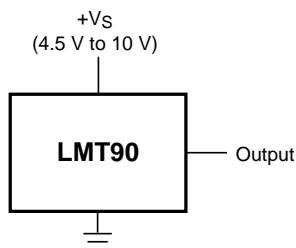

Figure 14. Full-Range Centigrade Temperature Sensor (–40°C to 125°C)
Unless otherwise noted, these specifications apply for V_S = 5 V_{DC} and I_{LOAD} = 0.5 μA, in the circuit of Figure 14. All limits T_A = T_J = 25°C, unless otherwise noted.
- (1) Limits are specific to TI's AOQL (Average Outgoing Quality Level).
- (2) Accuracy is defined as the error between the output voltage and 10 mV/°C times the device's case temperature plus 500 mV, at specified conditions of voltage, current, and temperature (expressed in °C).
- (3) Non-linearity is defined as the deviation of the output-voltage-versus-temperature curve from the best-fit straight line, over the device's rated temperature range.
- (4) Regulation is measured at constant junction temperature, using pulse testing with a low duty cycle. Changes in output due to heating effects can be computed by multiplying the internal dissipation by the thermal resistance.
- (5) Quiescent current is defined in the circuit of Figure 14.
- (6) For best long-term stability, any precision circuit will give best results if the unit is aged at a warm temperature, and/or temperature cycled for at least 46 hours before long-term life test begins. This is especially true when a small (Surface-Mount) part is wave-soldered; allow time for stress relaxation to occur. The majority of the drift will occur in the first 1000 hours at elevated temperatures. The drift after 1000 hours will not continue at the first 1000 hour rate.